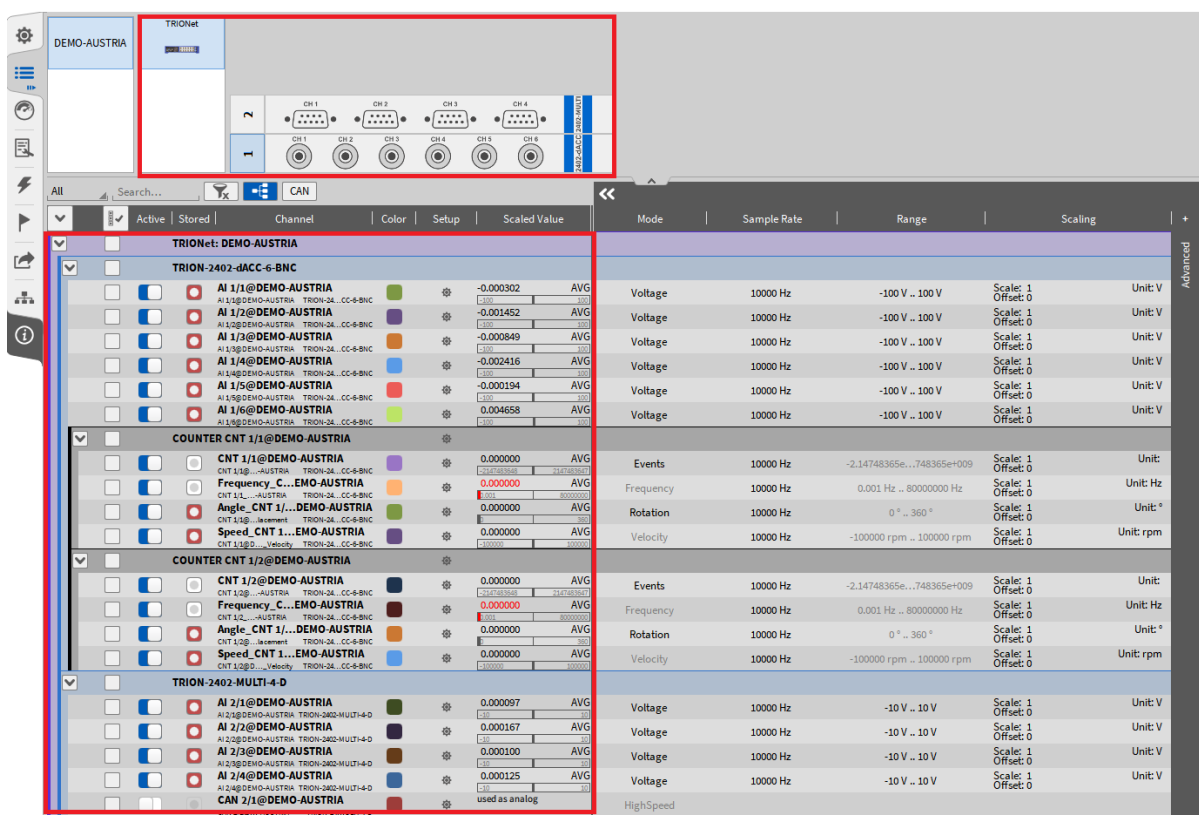

Fig. 4.2: Overview of connected TRION hardware in the Channel List
- The channels of the connected TRION hardware will now be visible and editable in the Channel List (see Fig. 4.2):